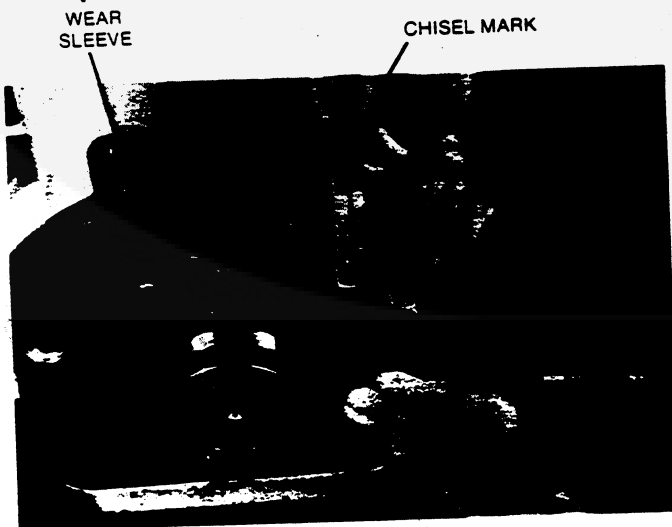

FIGURE 19. WEAR SLEEVE REMOVAL
2. If replacement is required, use a hammer and a chisel that is only as wide as wear sleeve, to make one or two chisel marks across wear sleeve (Figure 19). This will expand wear sleeve allowing removal from crankshaft.